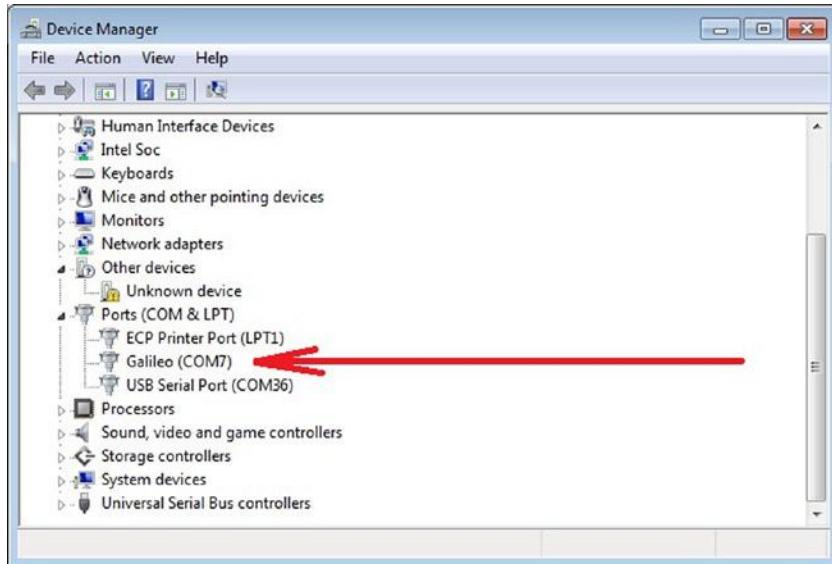

Figure 3-3. Galileo serial driver in Windows the Control Panel
2. Look under Ports (COM & LPT). You should see an open port named “Gadget Serial V2.4” if you using an old release like 0.7.5 or simply “Galileo” in newer releases. Figure 3-3 shows the serial driver.
The concept of "verify" on Arduino IDE really means compile the code. That should report "Done compiling" in the area represented by the number 2 in Figure 3-3.